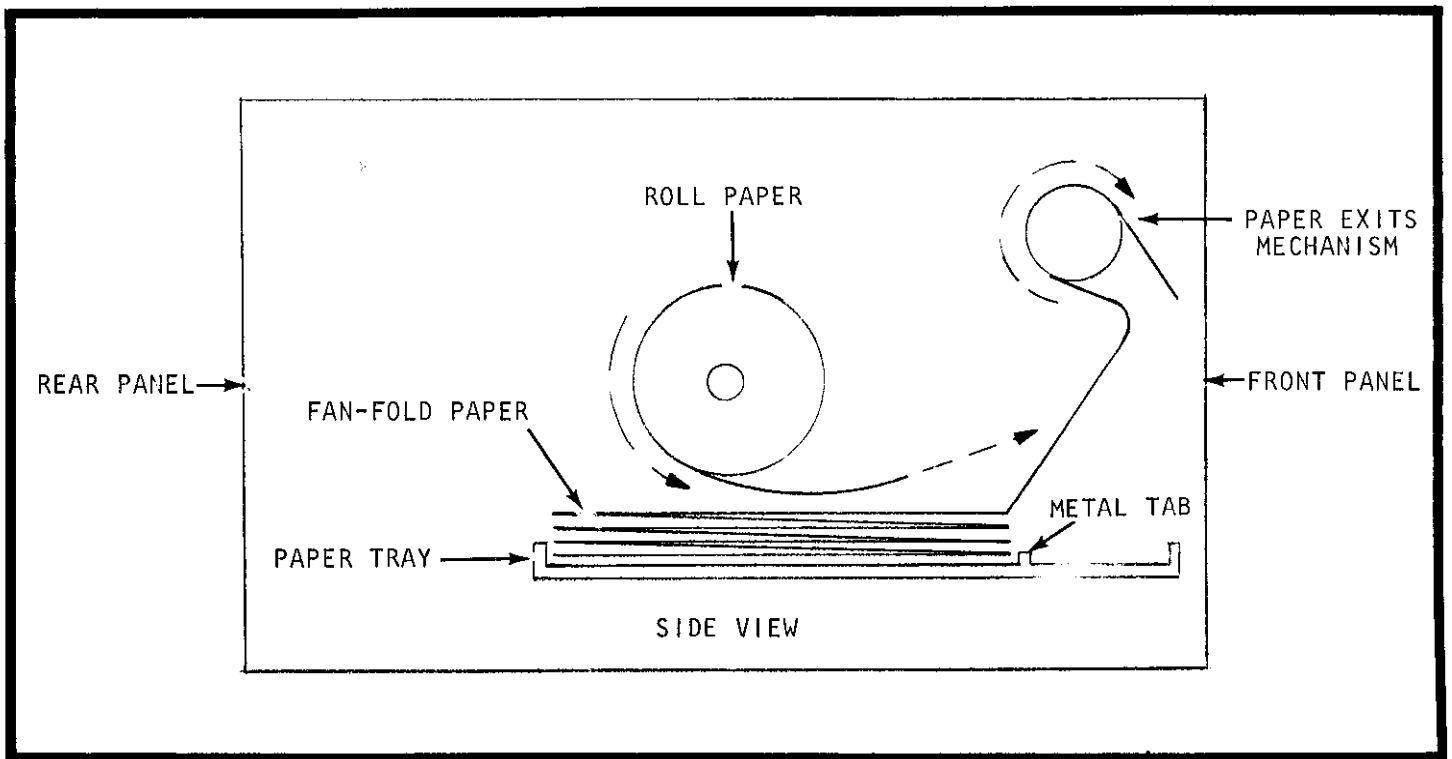

FIGURE 4. How to Install Fan-Fold or Roll Paper.
3. Place stack of fan-fold paper in pull-out tray as shown in Figure 4. Be certain the tray is aligned so that the metal tab is in the front.
7. Feed the free end of paper under mechanism until it protrudes at the front panel (see Figure 4).